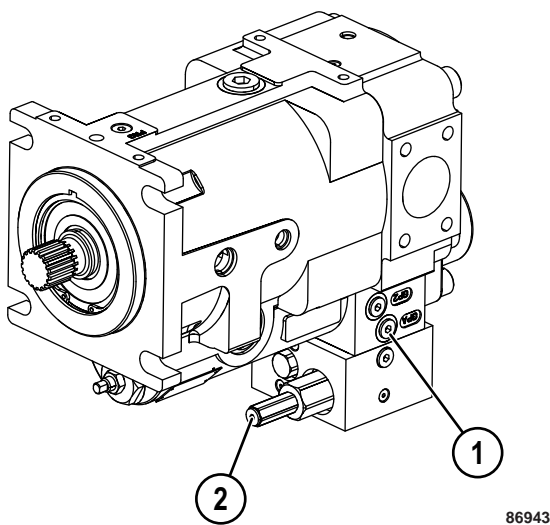

FIGURE 30-9. STEERING PUMP
- The pressure at steering pump test port GPA (1, Figure 30-9) should be approximately 690 kPa (100 psi).